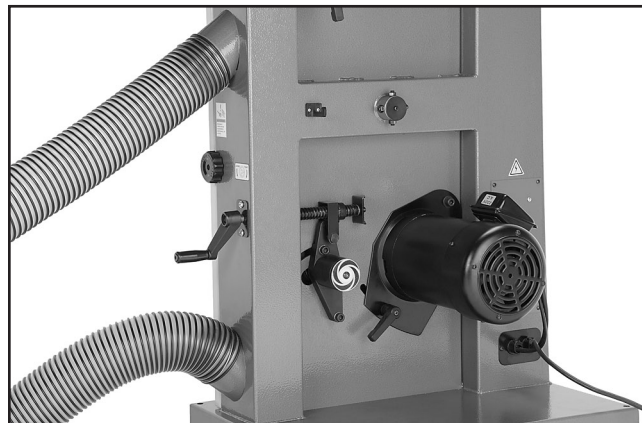

Figure 17. Dust hoses attached to dust ports.
- Fit a 4" dust hose or 4" adapter over each dust port and secure in place with hose clamps, as shown in **Figure 17**.